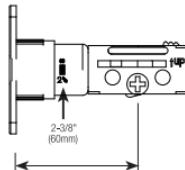

Figure 2c
- Rotate the cylinder cover away from you so that the marking aligns with the 2-3/8" (60mm) position indicator (Figure 2c).